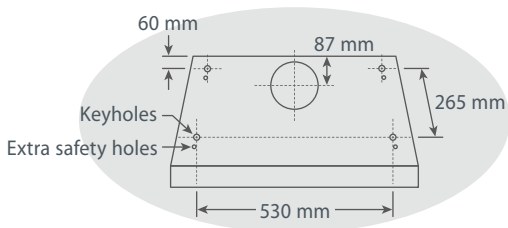

Fig.15 Mounting under cupboard
- 7 Create additional means of attachment. Keyholes alone are insufficient means of attachment. There are extra holes found on top panel of the hood. Select one on each side and fit screws to ensure proper attachment, as shown in (fig.15). Ensure all fixings are secure.